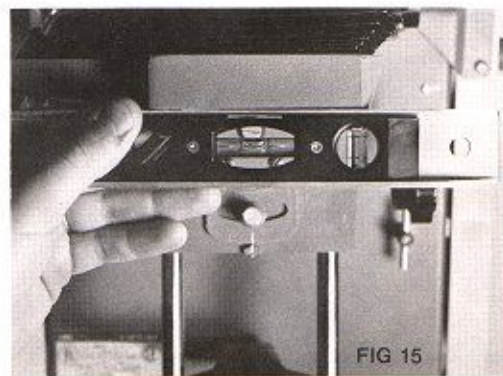

FIG 15
- Place a bubble level or carpenters square in contact with the underside of the lens stage casting (see fig. 15). Level by moving the lens stage from side to side. The lens stage should be parallel to the baseboard.